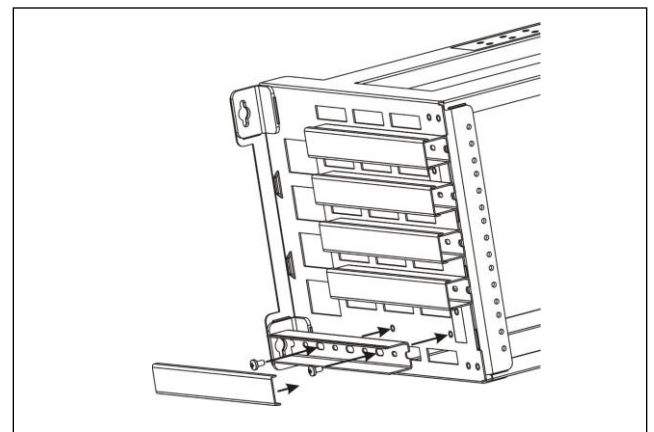

Figure 8. Cable guide installation
- ② Attach ground lugs associated with each equipment chassis to the threaded ground holes on the WR-5UI2 crossbar as needed.
- ① To install a cable guide to the side of the mounting, first remove the sliding cover from the cable guide. Insert two of the #10-32 x 3/8" screws (included with the CG-5 cable pack) through the cable guide and into the threaded holes on the side of the WR-5UI2 frame (Figure 8).